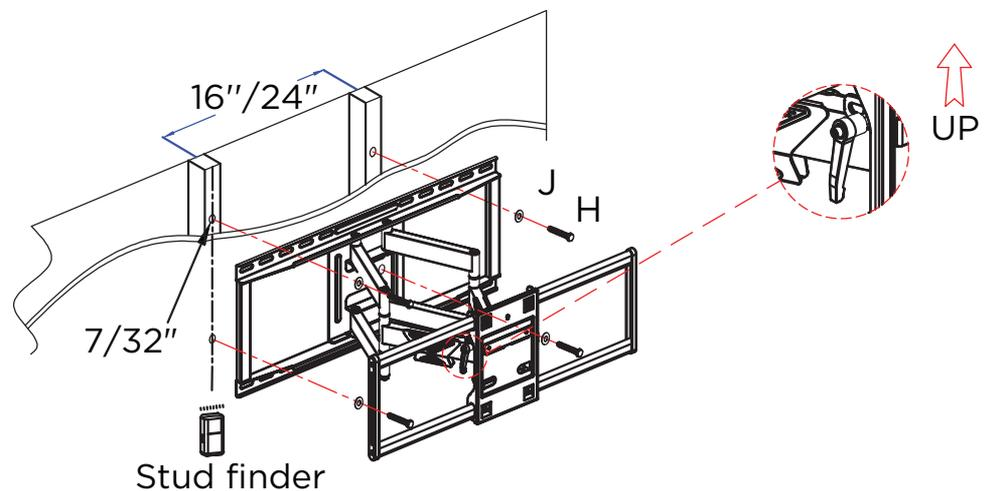

Figure 2 (keep the wall plate level)
If you mount the TV mount into wood studs, pre-drill the 4 mark holes using a 7/32" drill bit to a depth of 2.5". Then fix wall plate unit (A) to the wall with screws (H) and washers (J). (Figure 2)